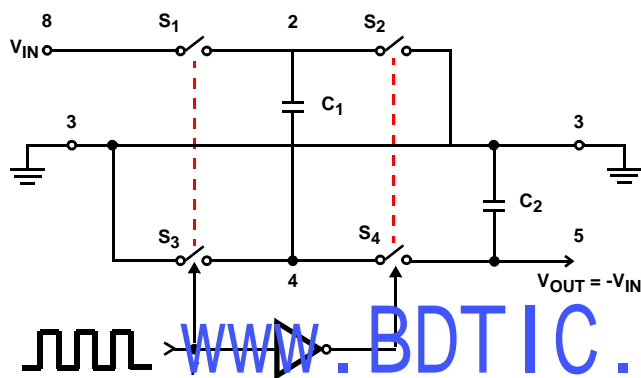
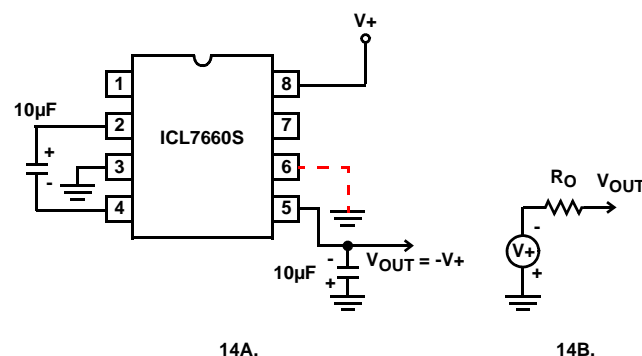

FIGURE 13. IDEALIZED NEGATIVE VOLTAGE CONVERTER
FIGURE 14. SIMPLE NEGATIVE CONVERTER AND ITS OUTPUT EQUIVALENT
In the ICL7660S, the 4 switches of Figure 13 are MOS power switches;  $S_1$  is a P-Channel devices and  $S_2$ ,  $S_3$  and  $S_4$  are N-Channel devices. The main difficulty with this
where  $V_1$  and  $V_2$  are the voltages on  $C_1$  during the pump and transfer cycles. If the impedances of  $C_1$  and  $C_2$  are relatively high at the pump frequency (refer to Figure 13) compared to the value of  $R_L$ , there will be substantial difference in the voltages  $V_1$  and  $V_2$ . Therefore it is not only desirable to make  $C_2$  as large as possible to eliminate output voltage ripple, but also to employ a correspondingly large value for  $C_1$  in order to achieve maximum efficiency of operation.
The majority of applications will undoubtedly utilize the ICL7660S for generation of negative supply voltages. Figure 14 shows typical connections to provide a negative supply where a positive supply of +1.5V to +12V is available. Keep in mind that pin 6 (LV) is tied to the supply negative (GND) for supply voltage below 3.5V.
The output characteristics of the circuit in Figure 14 can be approximated by an ideal voltage source in series with a resistance as shown in Figure 14B. The voltage source has a value of  $(V^+)$ . The output impedance ( $R_O$ ) is a function of the ON resistance of the internal MOS switches (shown in Figure 13), the switching frequency, the value of  $C_1$  and  $C_2$ , and the ESR (equivalent series resistance) of  $C_1$  and  $C_2$ . A good first order approximation for  $R_O$  is:
Figure 21 combines the functions shown in Figure 14 and Figure 20 to provide negative voltage conversion and positive voltage doubling simultaneously. This approach would be, for example, suitable for generating +9V and -5V from an existing +5V supply. In this instance capacitors  $C_1$  and  $C_3$  perform the pump and reservoir functions respectively for the generation of the negative voltage, while capacitors  $C_2$  and  $C_4$  are pump and reservoir respectively for the doubled positive voltage. There is a penalty in this configuration which combines both functions, however, in that the source impedances of the generated supplies will be somewhat higher due to the finite impedance of the common charge pump driver at pin 2 of the device.